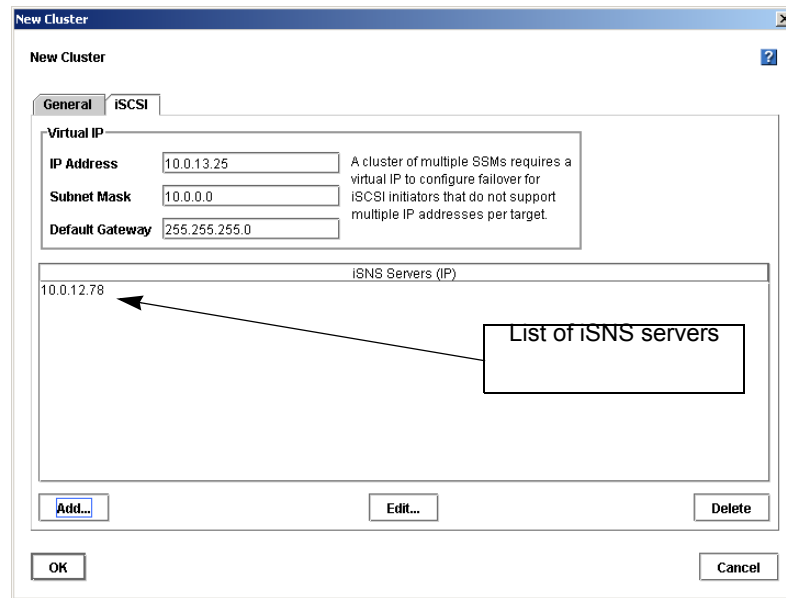

Figure 155. List of iSNS Servers
3. Click OK. The server is added to the list, shown in Figure 155.